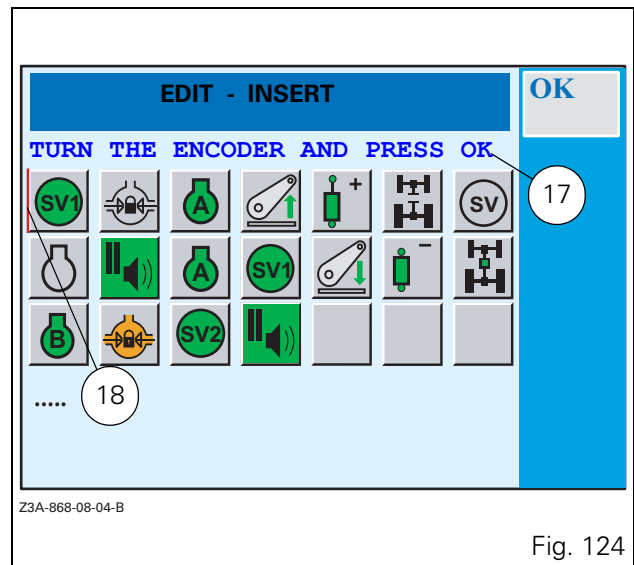

Fig. 124
An instruction message (17) and a red hyphen (18) are displayed (Fig. 124).